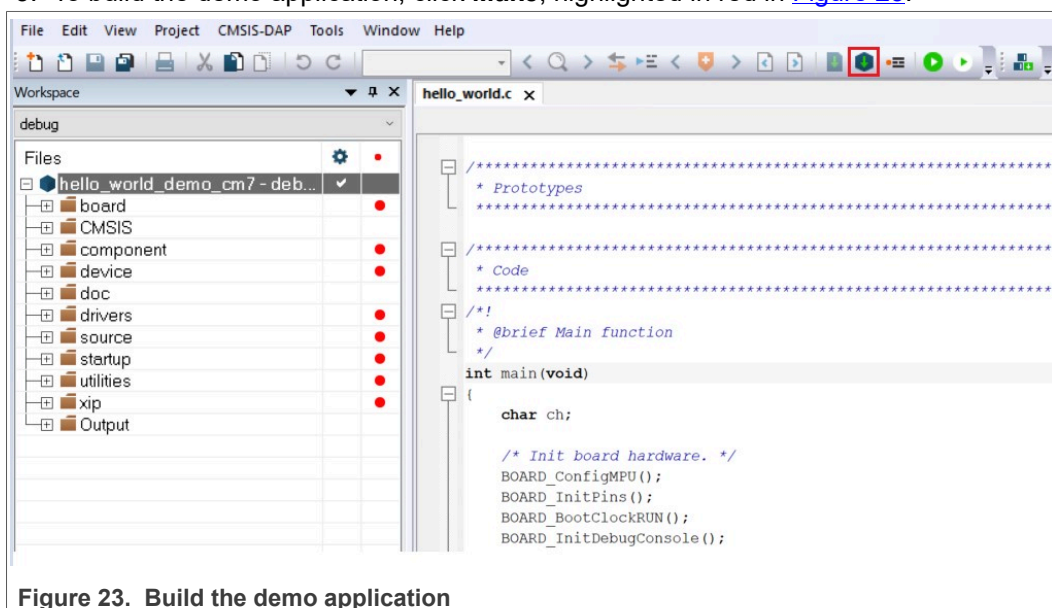

Figure 23. Build the demo application
3. To build the demo application, click **Make**, highlighted in red in Figure 23.